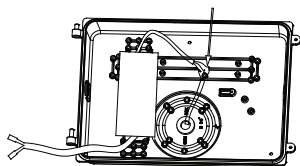

Figure 4
- Make wiring connections per “Electrical Connections” section and make sure the good wire protection. (Figure 4)